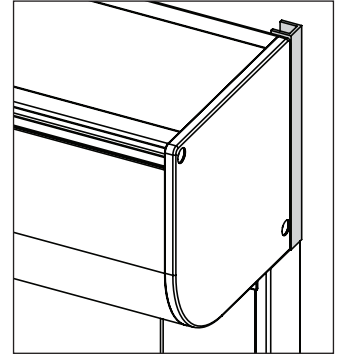

Fig. 34: U-profile height -vertical
B. U-profile height - vertical (fig. 34)